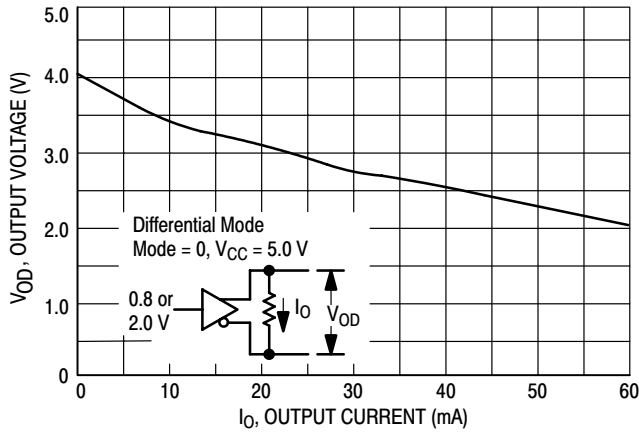
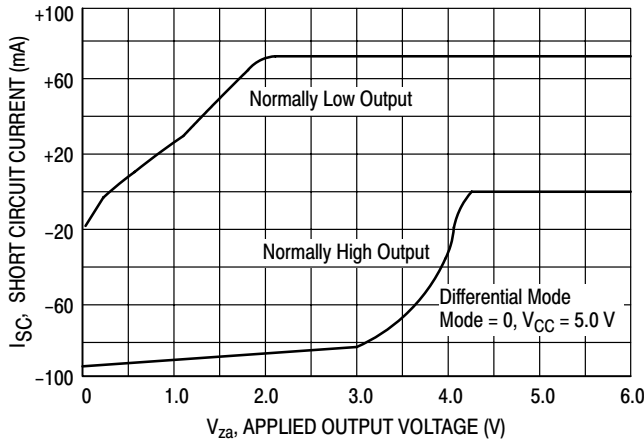

Figure 6. Differential Output Voltage versus Load Current
Figure 8. Short Circuit Current versus Output Voltage
In this mode (Pins 4 and 8 at ground), only a +5.0 V supply $\pm 5\%$ is required at V_{CC} . Pins 2 and 7 are the driver inputs, while Pins 10, 11, 14 and 15 are the outputs (see Block Diagram on page 1). The two outputs of a driver are always complementary and the differential voltage available at each pair of outputs is shown in Figure 6 for $V_{CC} = 5.0$ V. The differential output voltage will vary directly with V_{CC} . A “high” output can only source current, while a “low” output can only sink current (except for short circuit current – see Figure 8).
The outputs have short circuit current limiting, typically, less than 100 mA over a voltage range of 0 to +6.0 V (see Figure 8). Short circuits should not be allowed to last indefinitely as the IC may be damaged.
V_{OD} = is taken from Figure 6 for the known value of I_O
1) The device may be operated in the differential mode (Pin 4 = 0) with V_{EE} connected to any voltage between ground and -5.25 V. Outputs in the low state will be referenced to V_{EE} , resulting in a differential output voltage greater than that shown in Figure 6. The Enable pins will operate the same as previously described.